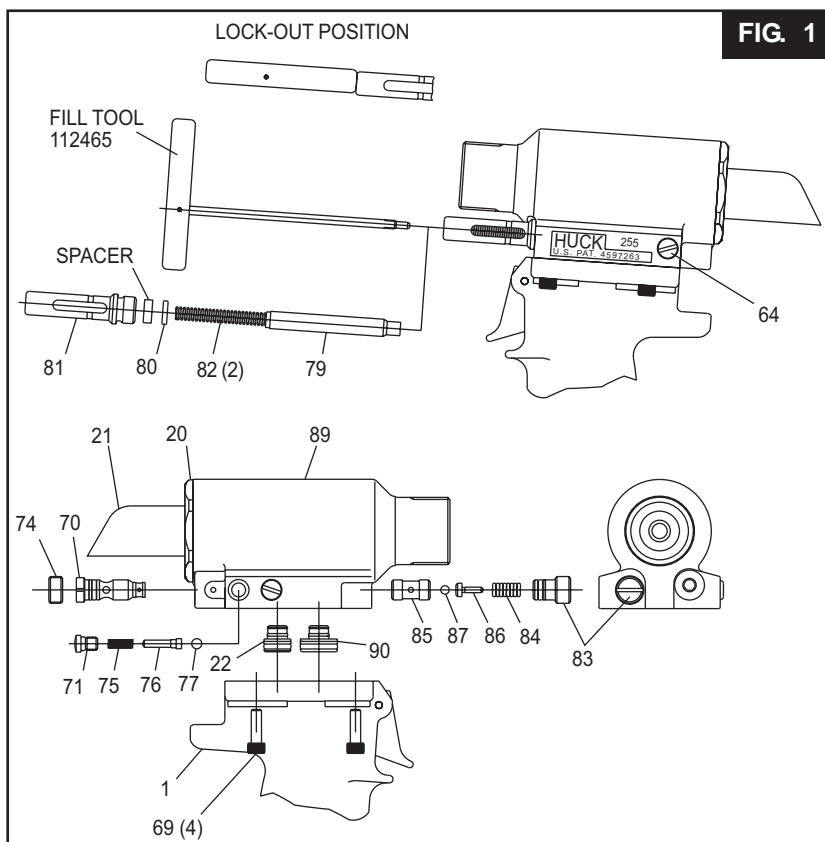

FIG. 1
(Refer to Figures 1 thru 4 and 9)
3. Insert Fill Tool P/N 112465 through reservoir housing and screw into Reservoir Plunger (79) locking it in the out position. (Fig. 1)
4. Unscrew Cap Screws (69) with 5/32 hex key. Carefully lift Head (89) straight up from Handle (1), remove Pull Gland (90) and Return Gland (22) from separated assemblies. Remove seals from glands. (Fig. 1)
5. Unscrew Plug (83) of return Pressure Relief Valve from front of head. Remove Spring (84), Valve Guide (86), Sleeve (85) and Steel Ball (87). A small magnet is helpful. (Fig. 1)
6. Unscrew Bleed Plug (64). Hold over waste oil container and release fill tool slowly. (Fig. 1)
7. Unscrew Reservoir Housing (81) from head. Remove two Springs (82). Slide Reservoir Plunger (79) from head. Remove spacer and Quad Ring (80). A pick may be used to remove the quad ring. (Fig. 1)
8. Unscrew Plug (71) of reservoir check Valve from side of head. Remove Spring (75), check Valve Guide (76) and Stainless Steel Ball (77). (Fig. 1)
9. If check Valve Seat (78) is damaged contact your Huck representative. If Seat (88) is damaged it can be removed by using the following procedure.
16. Remove Bleed Plug (64) from handle. (Fig. 1)
(Refer to Figures 1 thru 5 and 9.)
12. Install O-ring (72) and Back-up rings (25) onto seat. Drive seat and seal assembly in using soft drift taking care not to damage ball seat surface. (Fig. 1 & 9)
17. Install O-ring (72) & Back-up Ring (25) on Plug (83). Install Ball (87), Valve Guide (86), Sleeve (85), Spring (84) and Plug (83) into head. (Fig. 1 & 9).
18. Install O-ring (65) on Plug (71). Install Ball (77), Guide (76), Spring (75) and Plug (71) into head.